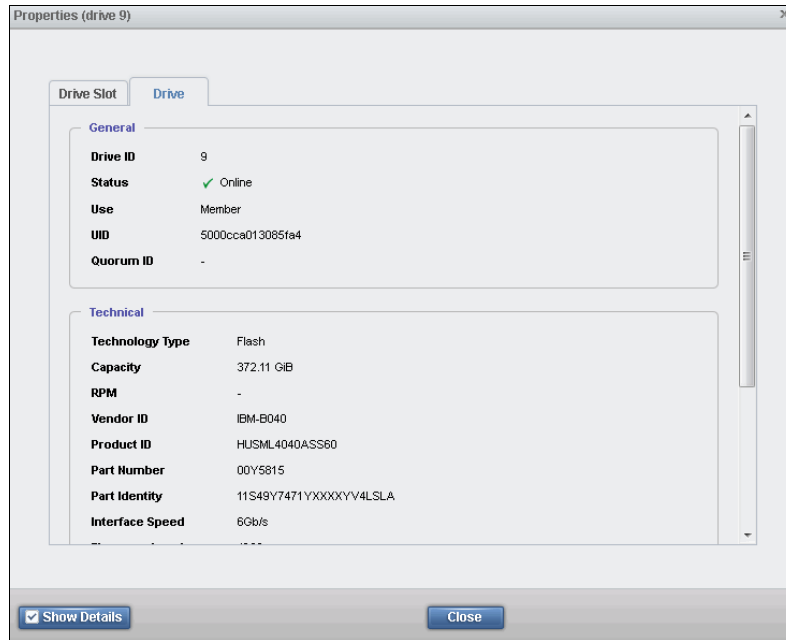

Figure 7-15 Internal drives properties: Part1
1. Click **Properties** (as shown in Figure 7-15) in the Actions menu, or double-click the drive, to see the vital product data (VPD) and the configuration information. The Show Details option was selected to show more information.